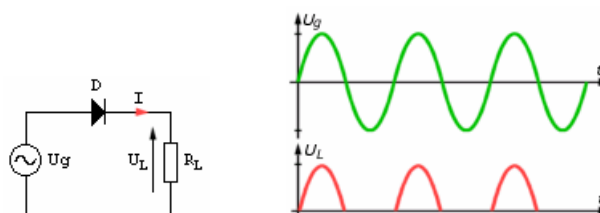
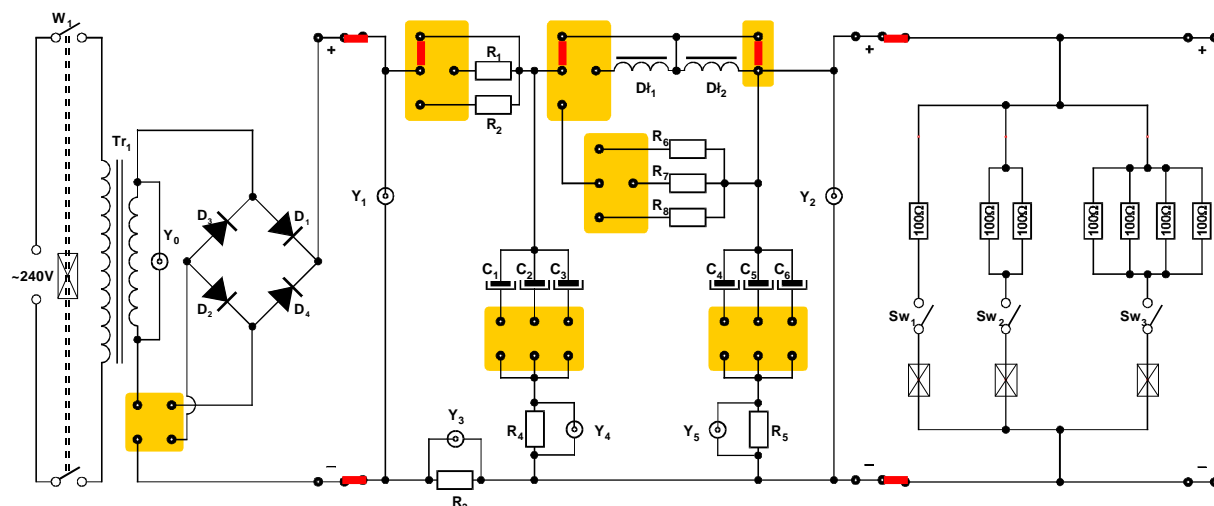

Fig.1. Schematic diagram of half-wave rectifier circuit and oscillograms of input U_g and output U_L voltage signal [4].
Fig. 9. Total schematic diagram of investigated setup to observe rectified voltage for the half or full-wave rectifier circuits.
1. Connect the circuit according to the diagram presented in Fig. 9. Use the jumper to select the half-wave mode of rectifier (see Fig. 6a). Check if all of Sw_1 , Sw_2 , Sw_3 switches are set to 0 ($R_L \rightarrow \infty$, no load). Connect the two channels of oscilloscope to Y_0 and Y_1 BNC connectors on the front panel of experimental module. Set the input amplification of the both oscilloscope channels to 5V/DIV. **NOTICE: the real gain of input channel connected to Y_0 is 10V/DIV because of safety lab regulations (the voltage on Y_0 is two times lower then the real output voltage of secondary winding of a transformer). Ask the supervisor to approve the circuit configuration before you switch on the power.** Use the W_1 switch to power on the circuit. Draw oscillograms of input signal of supply voltage (before rectifier) and related output signal of rectified voltage – see Fig. 1.